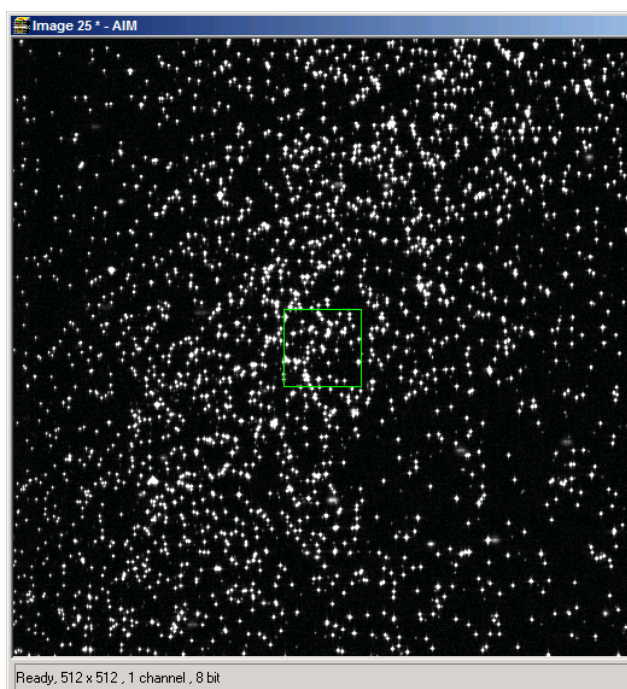

Fig. 5-12 Beads optimally focused
- Now use the **Collimator** slider to get a round spot out of the line (Fig. 5-12).